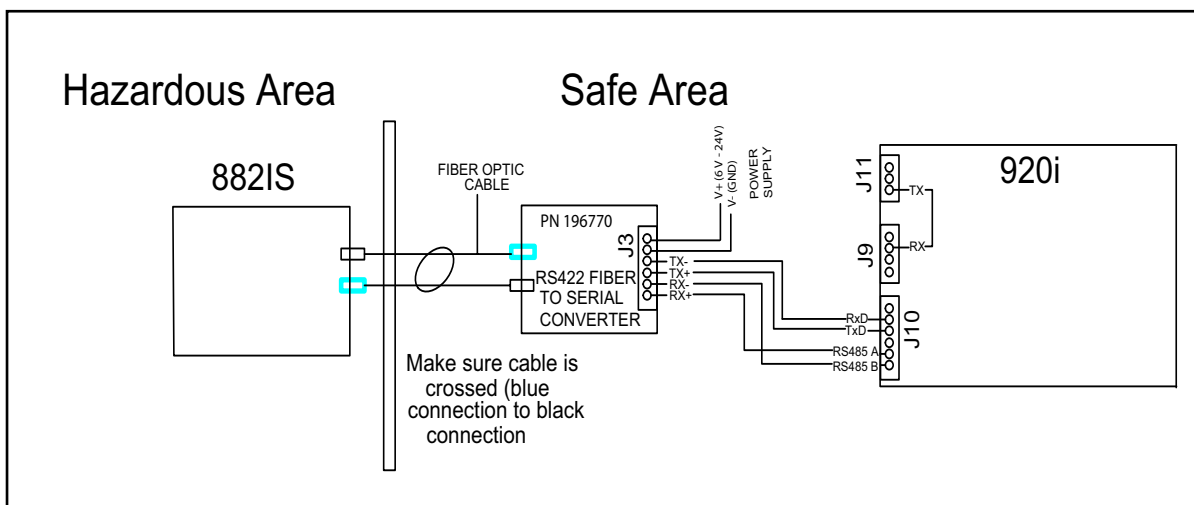

Figure 8-2. 882IS/882IS Plus Remote Setpoints RS-422 Hardware Model Example
- RS-422 fiber to serial converter box (PN 196770) (Figure 8-2 on page 71)